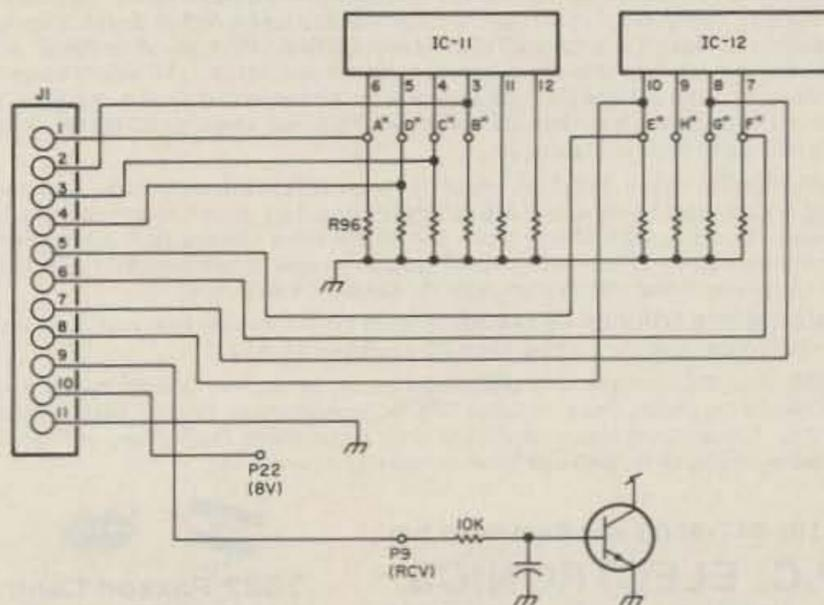

Fig. 2. The Scan-Can-to-KDK interface.
9) Locate IC-11 and IC-12 to determine the location of the proper pins that you will be soldering to (see Fig. 2).